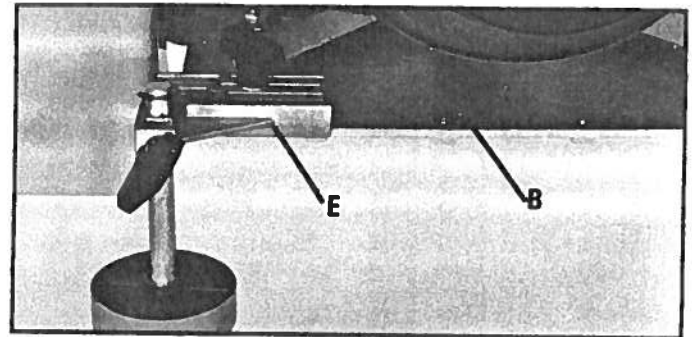

Fig. 3
2. Assemble the rear guide bracket (E) Fig. 3, to the platen (B) in the same manner as the front guide bracket. NOTE: The front and rear guide brackets are **not** interchangeable, wheels must be to the outside.